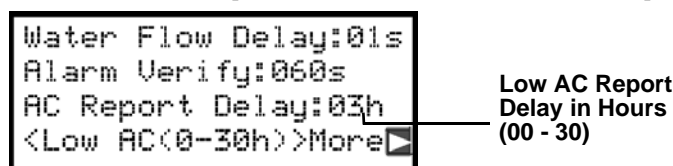

Figure 9.10 Low AC Report Delay Programming Screen
- Enter the number of hours (0-30) before a low AC report will be sent to the central station, then press ENTER. Refer to Figure 9.10.